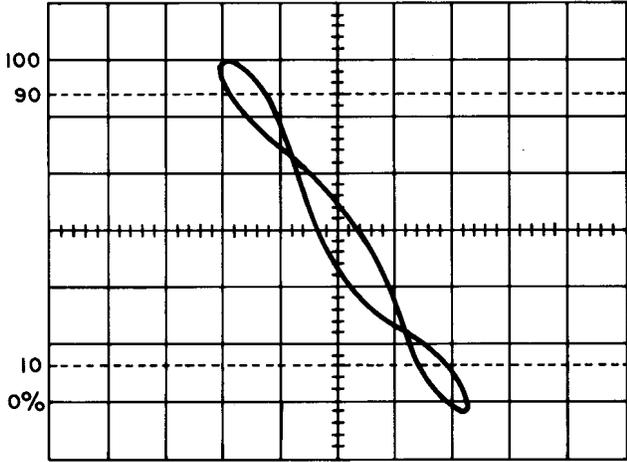

Fig. 10—64/192-kHz Display—Typical Pattern
- 13 Set the oscilloscope gain and sweep controls to obtain a 3:1 representation similar to that shown in Fig. 10. Observe the waveform pattern.